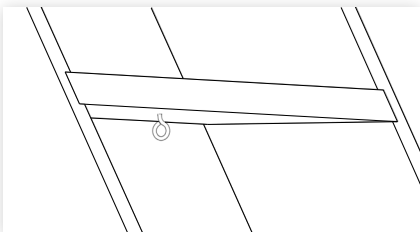

figure 14
2. On the second section of the ladder, measure to the mid-point of the bottom tread. Screw the provided screw eye into the tread (figure 14). This is to help unfold the ladder upon opening it.